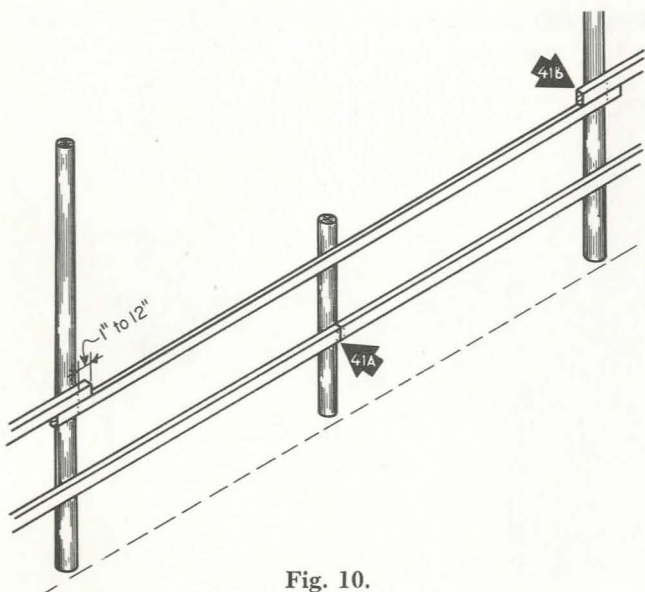

Fig. 10.
41. Apply siding girts by using (A) butt joints or (B) lap joints, depending on the length of the siding girt (see Fig. 10).